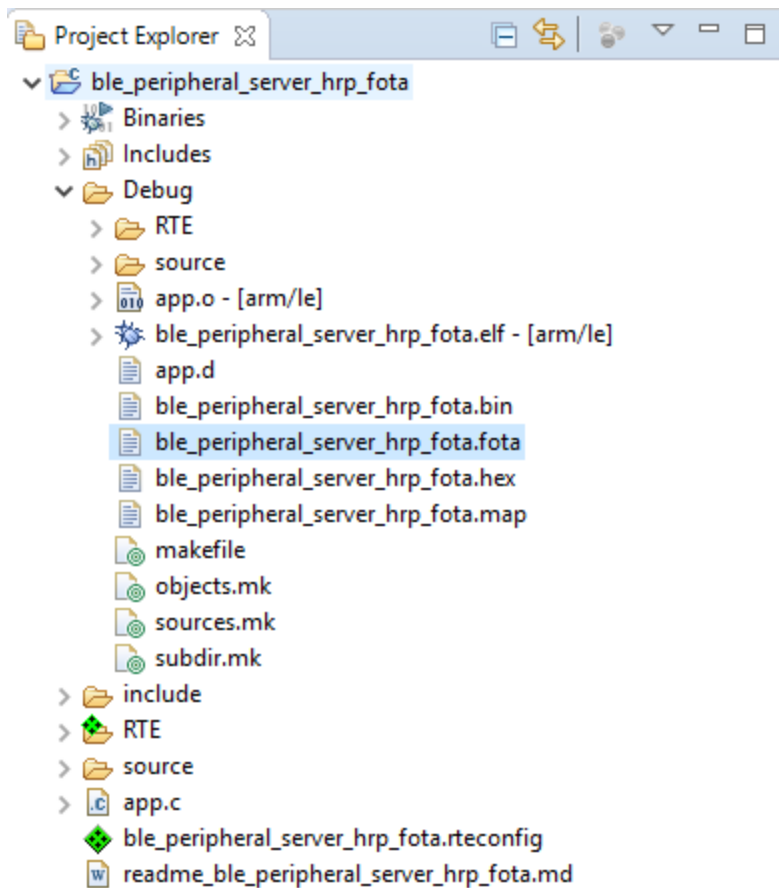

Figure 5. .fota Image in Debug Folder
4. Build the `ble_peripheral_server_hrp_fota` project. After a successful build, the `ble_peripheral_server_hrp_fota.fota` image is generated under the `Debug` folder, as seen in the figure "`.fota` Image in Debug Folder" (Figure 5):